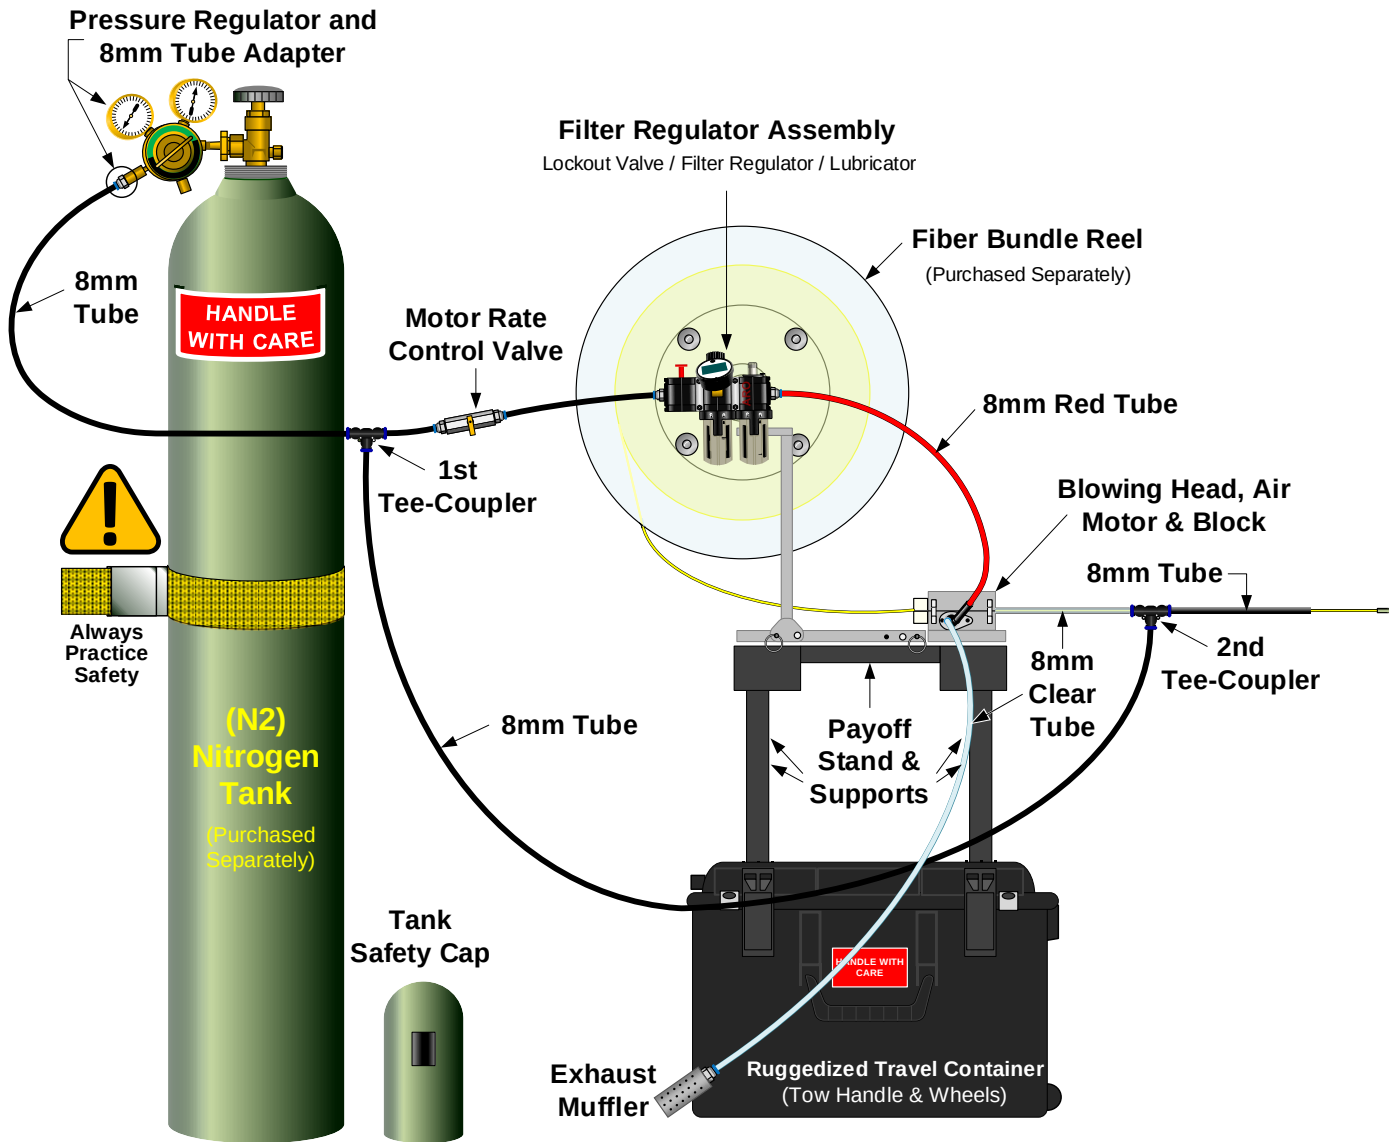

Figure 2
5.1 See Fig. 2 for Blowing Head Equipment layout. Also refer to Sumitomo Recommended Procedure **SRP: SP-F04-007** for detailed set-up procedures.